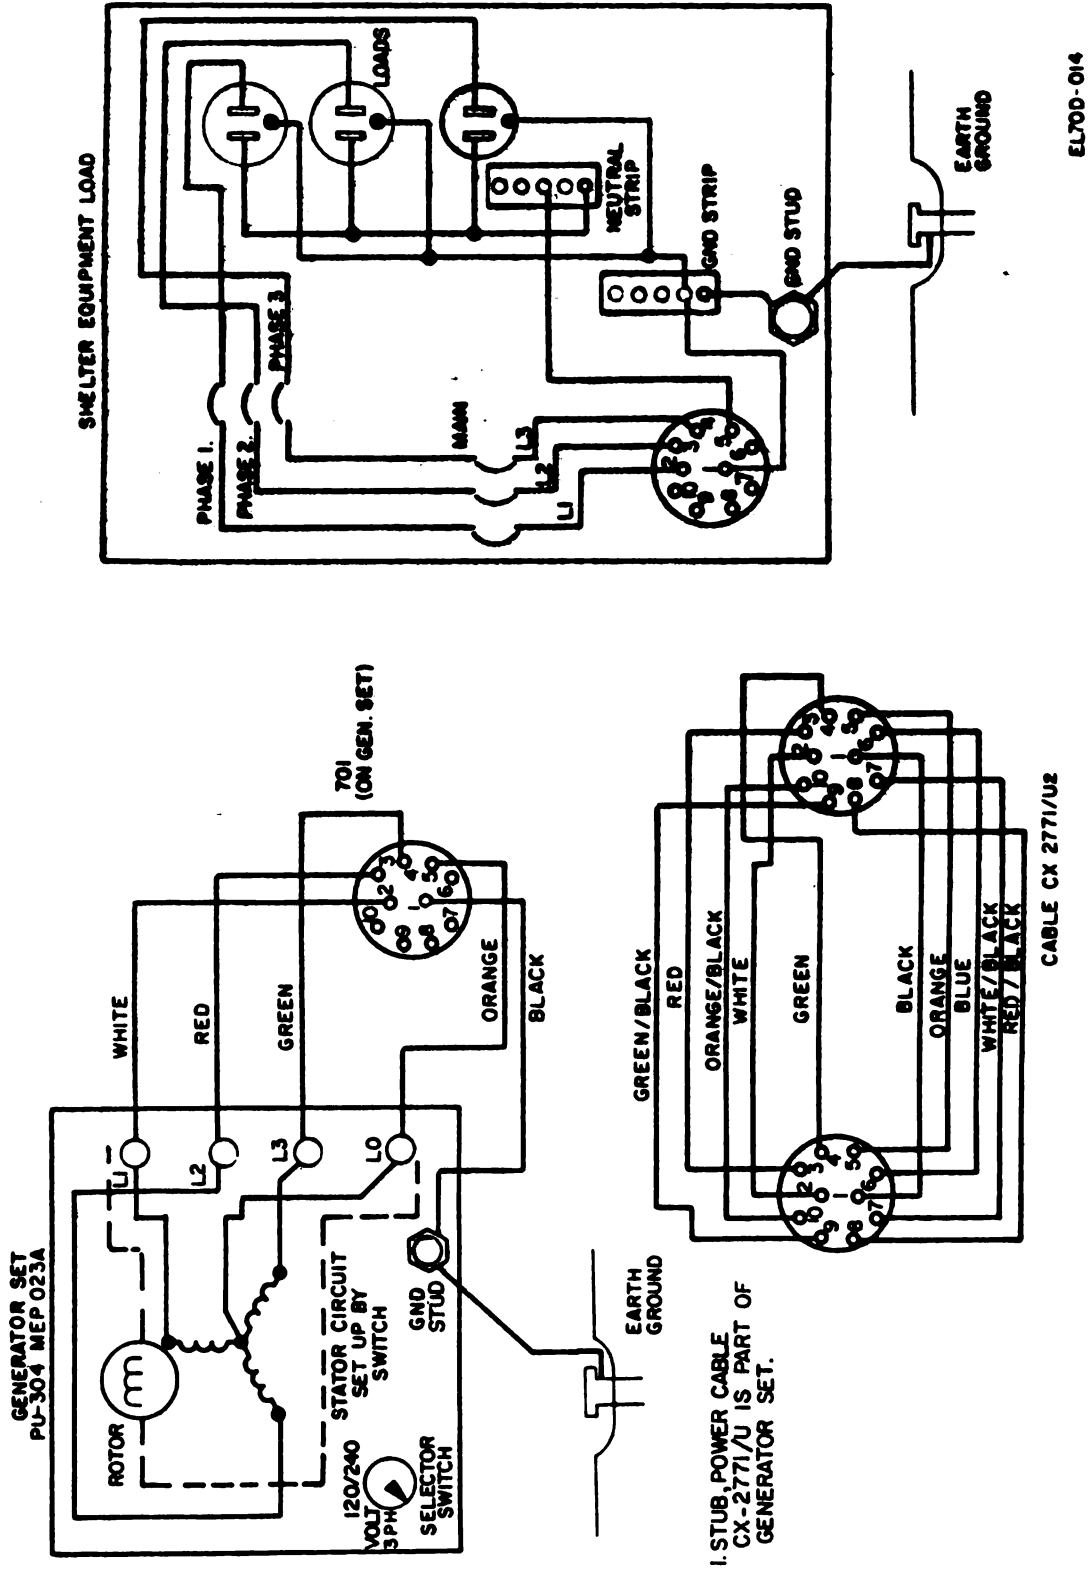

Figure 2-7.1. Generator Set PU-304 MEP Hookup.
2-6.1 Power Connections (fig. 2-7.1 and 2-14)
(1) Connect one end of power cable CX-2771/U (W701) to mating receptacle on Generator Set PU-304C (fig. 2-7.1).